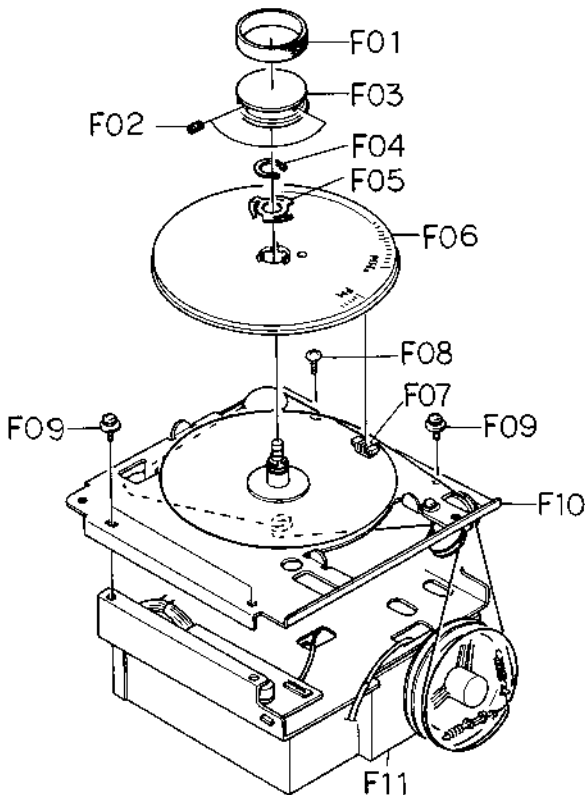

Fig. 3.4
Refer to Fig. 3.4. Remove front panel ass'y referring to item 3.1. Remove F02 (rubber ring) and loosen F02 (Screw M3x6 hex. socket head), then remove F03 (tuning knob). Remove F04 (C-ring) and F05 (dial spring), then F06 (dial pulley ass'y US). Remove bonded F07 (dial thread ass'y) from F06. Remove F08 and F09, then F10 (dial chassis ass'y) from F11 (FE chassis ass'y).